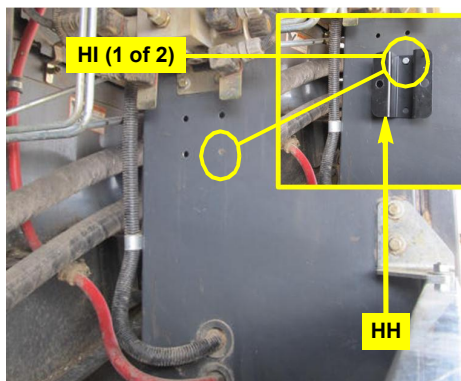

Figure 2b: Installed steering block mounting bracket - 500 series
- Mark and drill a second 3/8" hole (Figure 2b).